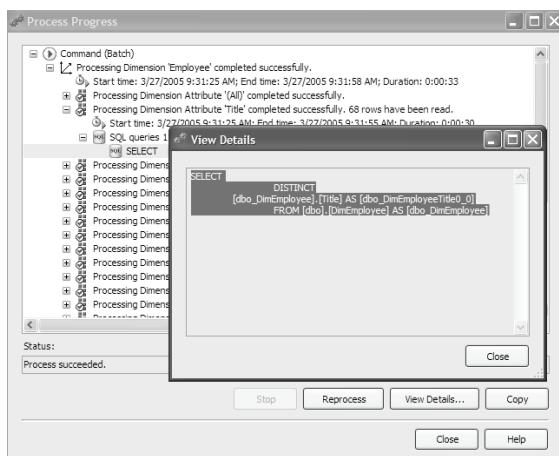

Figure 3.27 Use the Process Progress dialog to monitor and troubleshoot dimension processing.
- Click the Run button to start dimension processing. The Dimension Designer displays the Process Progress dialog (Figure 3.27) which is similar to the BI Studio Deployment Progress window.